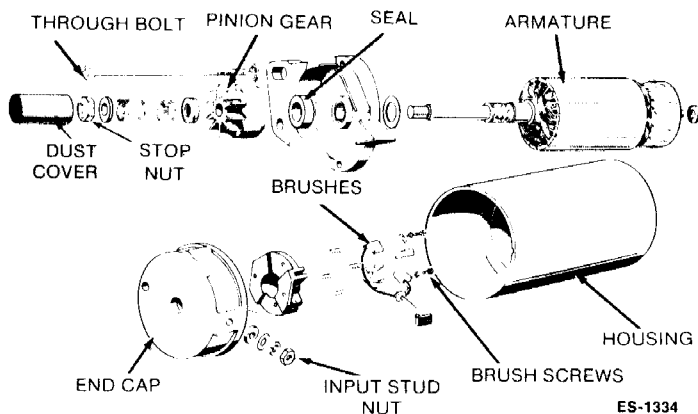

FIGURE 21. STARTER DISASSEMBLY
1. Remove the through-bolts and separate the end cap, the housing, and the armature (see Figure 21).